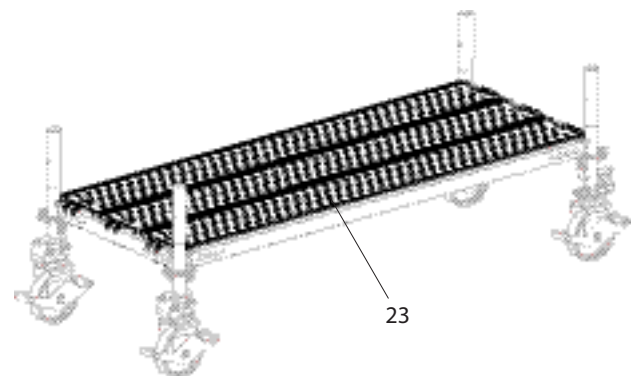

Fig. A3.02
1. Insert the existing Steel Decks UDG-2 (23) into the base level as auxiliary decks (Fig. A3.02).